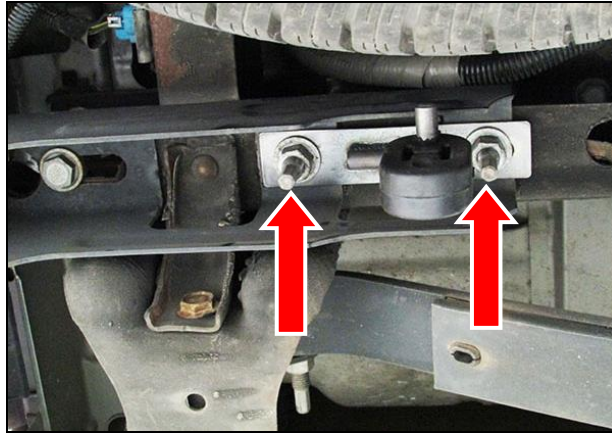

Figure 1
6. Remove (x2) 21mm nuts securing the left side hitch and install the supplied hanger bracket using the original 21mm nuts and tighten (**Figure 1**). The hanger rod should be facing the spare tire. Slide the supplied rubber isolation mount on the supplied hanger bracket.